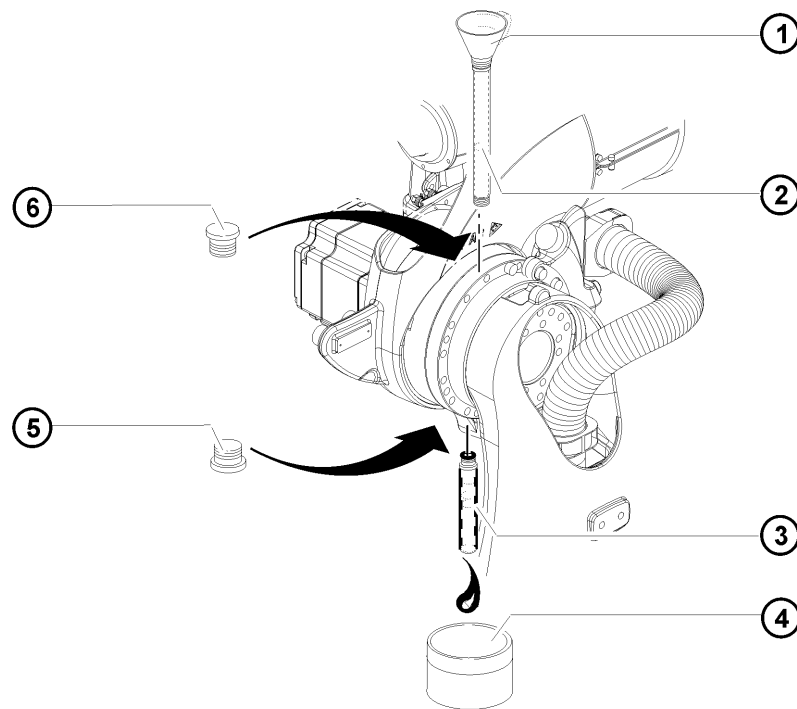

Fig. 9-12: Oil change on axis 3
1. Place a suitable receptacle under the oil drain hole (>>> Fig. 9-12).
1. Screw in the hose at the top (>>> Fig. 9-12).